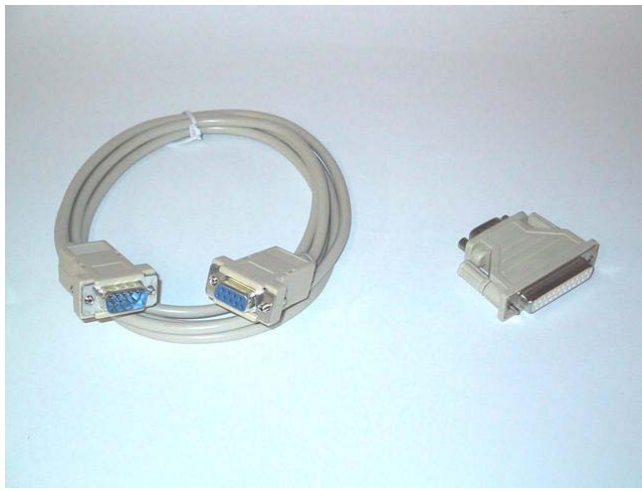

Figure 3.1
- 1) 1 x RS-232 DB9 Male to DB9 Female 9-poles cable (RadioShack Cat.#26-117) as in Fig.3.1. If the RS-232 connector available on your PC is a DB25 Male, then you also need a DB25 to DB9 serial adapter (RadioShack Cat.#950-0271); **do not use a mouse adapter** as they usually don't connect all the serial contacts. This cable is not supplied in the Lite version of the CLIO system.